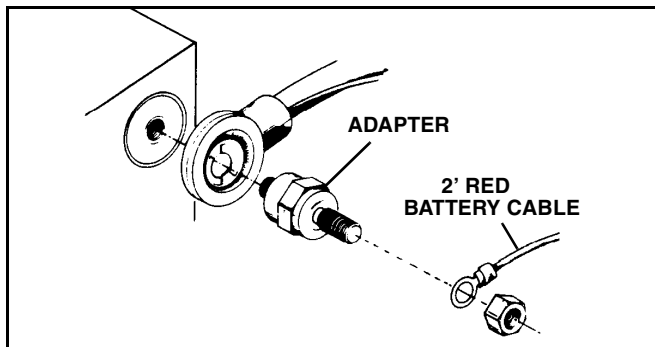

Figure 1-3
*NOTE: An adapter is recommended for vehicles with a side post battery. (See Figure 1-3). (Adapters can be purchased from your Sno-Way dealer, Part #96100773)*